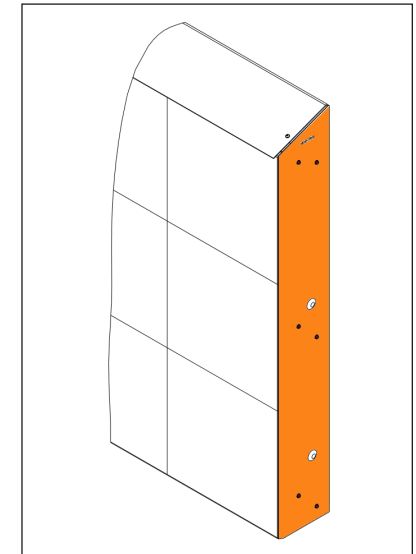

Figure 4: Border Installed
4. Ensure the pre-punched holes in the border align with the pilot holes in the section perimeter. With the holes aligned, use #10-16 x 0.375" tap screws (Daktronics part number HC-1186) to fasten the border to the section perimeter in all pre-punched hole locations in the border. Refer to **Figure 4** for the finished appearance.